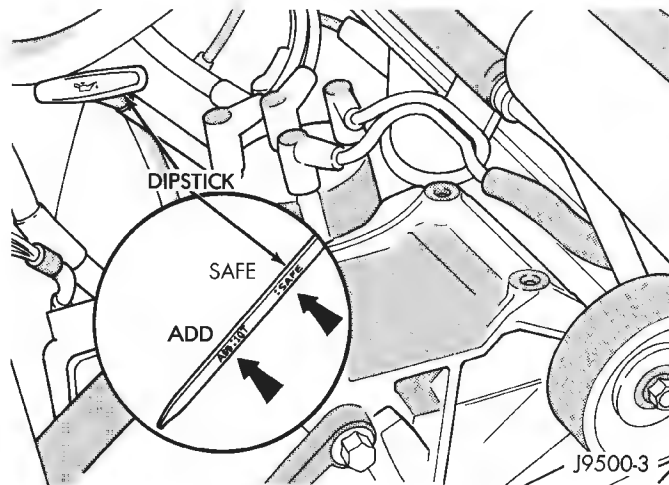

Fig. 4 Engine Oil Dipstick—2.5L Engine
To ensure proper lubrication of an engine, the engine oil must be maintained at an acceptable level. The acceptable levels are indicated between the ADD and SAFE marks on the engine oil dipstick (Fig. 4 and 5).
- (1) Position vehicle on level surface.
- (2) With engine OFF, allow approximately ten minutes for oil to settle to bottom of crankcase, remove engine oil dipstick.
- (3) Wipe dipstick clean.
- (4) Install dipstick and verify it is seated in the tube.
- (5) Remove dipstick, with handle held above the tip, take oil level reading (Figs. 4 and 5).
- (6) Add oil only if level is below the ADD mark on dipstick.